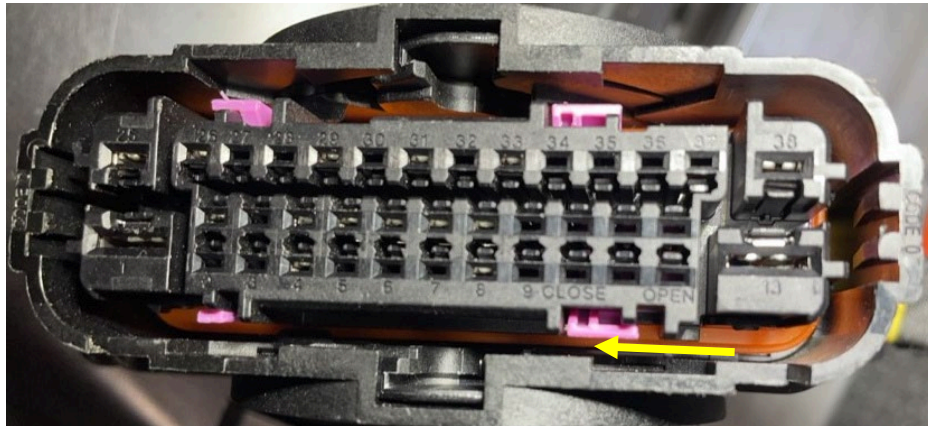

Figure 26
23. Use a pick to slide the large locking tab of connector X151 from “OPEN” to “CLOSE” (Figure 26).